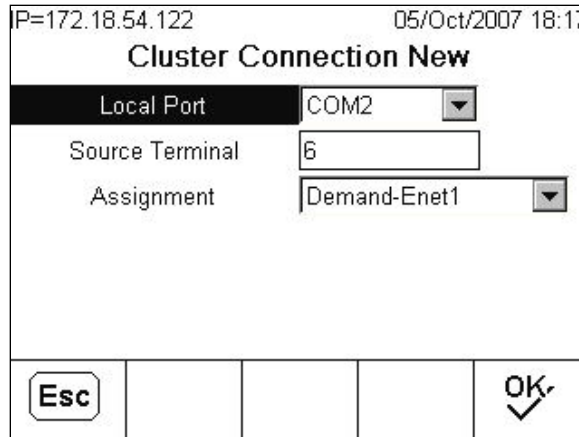

Figure D-13: Cluster Connection New
2. On the remote terminal to which the printer is attached, access **Setup > Communication > Network > Cluster > Connections**, press the NEW softkey  (Figure D-13) to add a connection as follows: